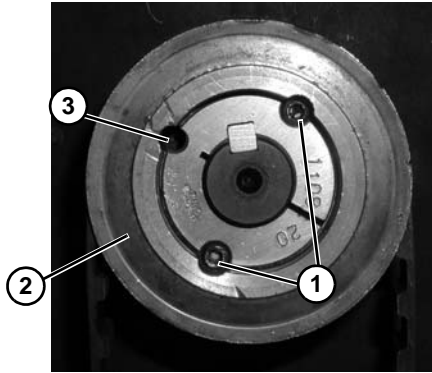

Figure 81
- d. Remove taper-lock screws (**Figure 81, item 1**) on the driven pulley (**Figure 81, item 2**). Insert one (1) of taper lock screws (**Figure 81, item 1**) in remaining hole (**Figure 81, item 3**). Tighten screw (**Figure 81, item 1**) until pulley is loose. Remove pulley, taper hub assembly and timing belt.